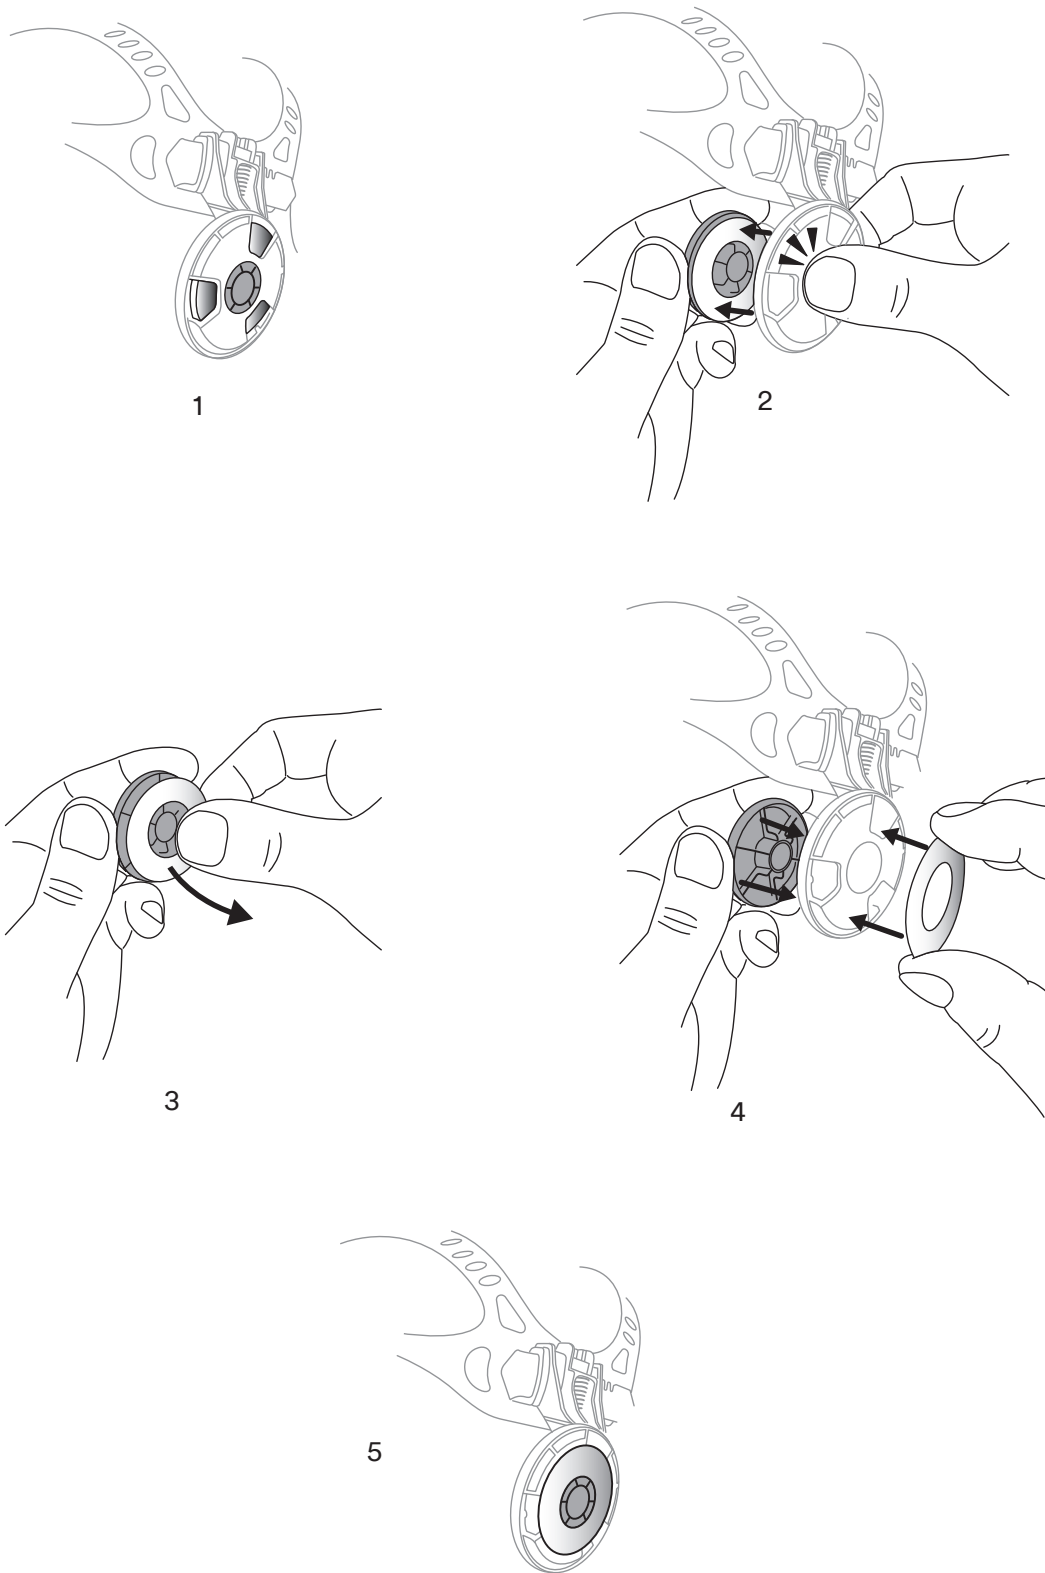

Fig. 6c
- The parking stop may be disabled by unscrewing the left pivot knob, pulling off the retaining washer, removing the stainless-steel washer, replacing the retaining washer, placing the stainless-steel washer over the retaining washer (stainless-steel washer moved from inside to outside the retaining washer) then reassembling the left pivot knob (Fig. 6c).